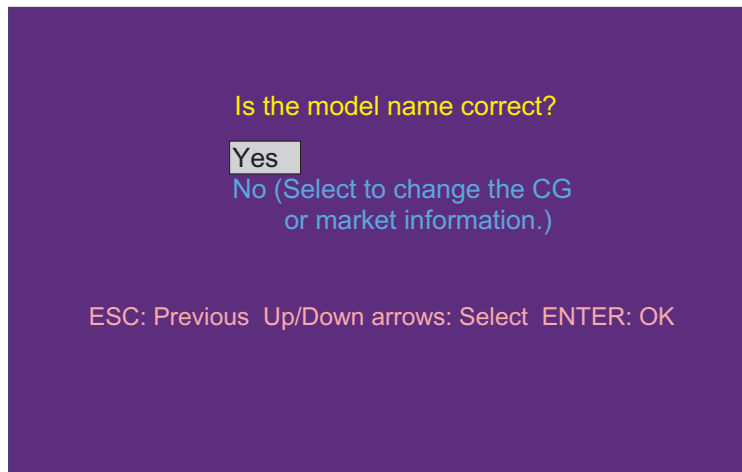

Figure 5-6. Model Name Confirmation
4. After a few seconds, the model name appears on the model name confirmation screen (Figure 5-6). Proceed to one of the steps below.
1. After you've selected **NO** on the model name confirmation screen (Figure 5-6), the screen below appears.